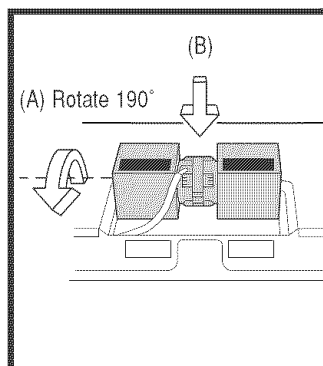

Figure 13
3. Rotate the Hood Fan Unit 90° so that the fan blade openings are facing the top of the oven. See Figure 13 (A). Replace Hood Fan Unit into the oven. Be careful not to pinch the lead wire between the inner bracket and the Hood Fan Unit. Put the lead wire into Wire Box. See Figure 13 (B).